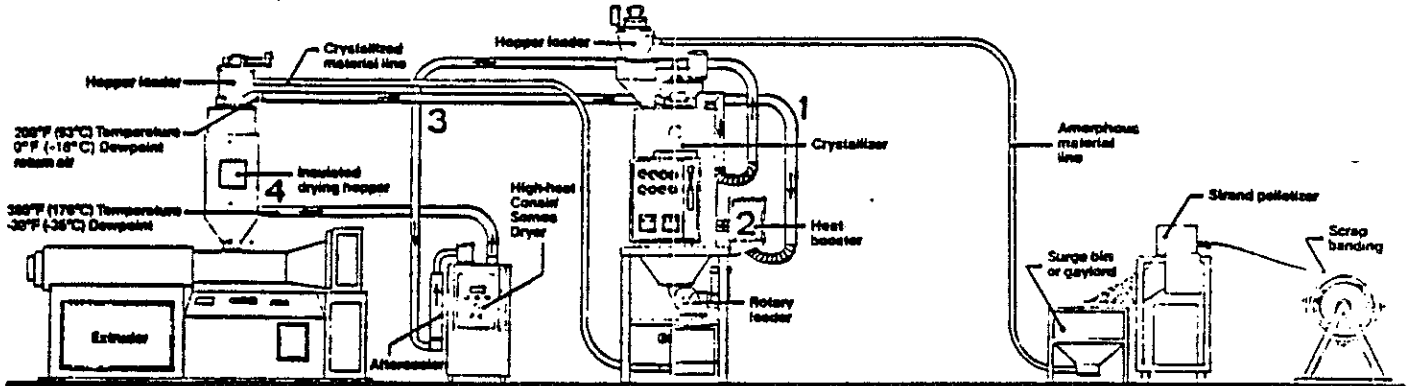

Figure 1
2. Begin assembling the unit using Figures 1 through 3 as a guide. These figures represent a variety of installation possibilities and one of them should suit your crystallizing needs.
The crystallizing and drying system can be arranged in several different configurations. See Figures 1 thru 3 on Page 2. Figure 1 indicates the crystallizer being used in series with the dehumidifying dryer and a drying hopper. Air passes from the dehumidifying dryer to the inlet of the drying hopper at approximately 350°F. Going through the bed of material in the drying hopper, out the top, through the heat booster where it is elevated to a temperature of approximately 320°F - 400°F, through the crystallizer, out the top, through an aftercooler, and back into the dehumidifying dryer again. This is the most energy efficient arrangement.